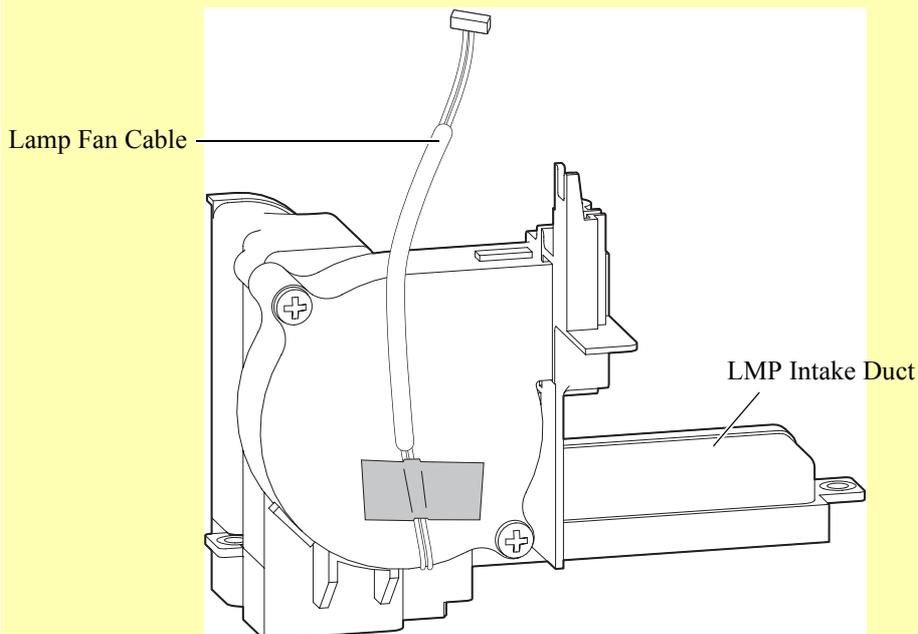

Figure 4-41.
- When installing the LMP Intake Duct, be sure to secure the Lamp Fan Cable with heat-resistant tape as shown in Figure 4-41.